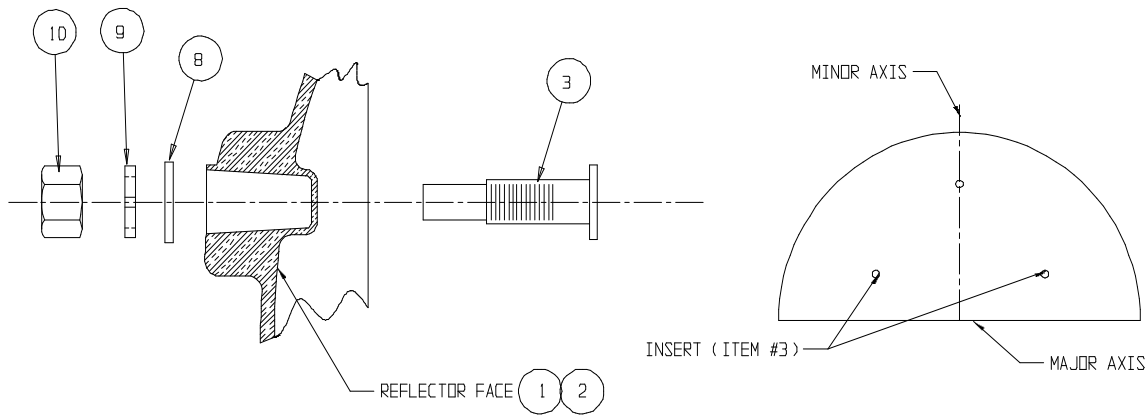

Figure 2.2-1
Step 1: Place three of the threaded inserts (item 3) through the face of each reflector petal (item 1 & 2) and secure with 3/4” flat washer, lock washer, and hex nut. (items 8,9, & 10). Snug, but do not completely tighten at this time. See figure 2.2-1.